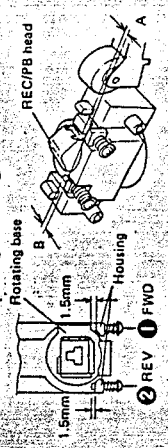

Fig. 12-2 Azimuth adjustment point
2. Using a screwdriver as shown in Fig. 12-2, adjust gap A between the housing and the revolving base to 1.5mm by turning screw ②.
4. Using the screwdriver again, adjust gap B between the housing and the revolving base to 1.5mm by turning screw ②.